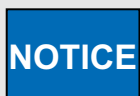

**Figure 4A** Pilot Valve Flow Adjustment
- f. Adjustment is on pilot solenoid valve. (See Figure 4A.)